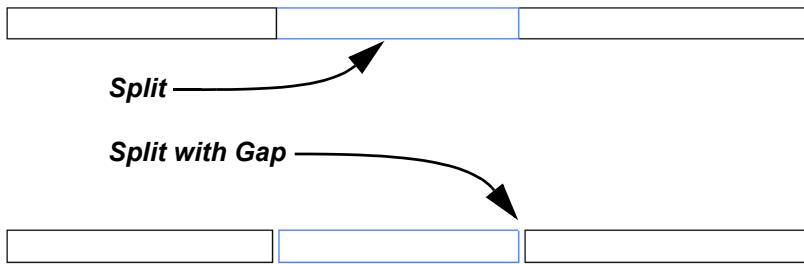

Figure 2–44
-  (Split with Gap) splits the linear element at the point you select, as shown in Figure 2–44, but also creates a *Joint Gap* specified in the Options Bar.